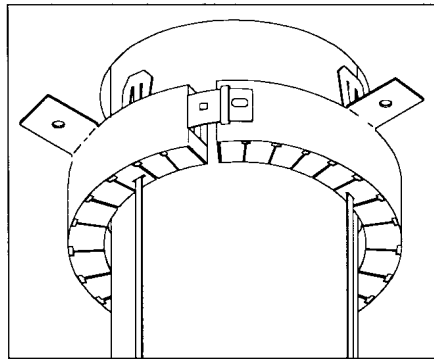

Figure 3: Close PPD to first tab and position
C. Close the PPD to the *first* locking position only by sliding the metal tab into the raised belt loop and position the PPD 2 inches (5 cm) from the wall or substrate surface. (Figure 3)